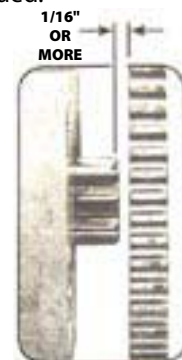

FIGURE 1
3. **CHECK PINION CLEARANCE-** There should be 1/16" minimum from the back side of ring gear to the front edge of teeth on the starter pinion. Check in at least three locations on the ring gear (see Figure 1). If not in spec., verify that the ring gear is properly mounted.